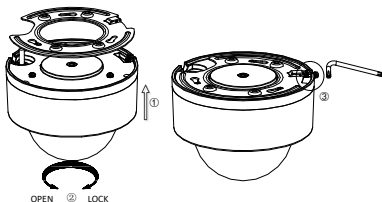

Figure 2-49 Fix the Camera
5. Fix the screws on the side with a screwdriver, as shown in Figure 2-49.